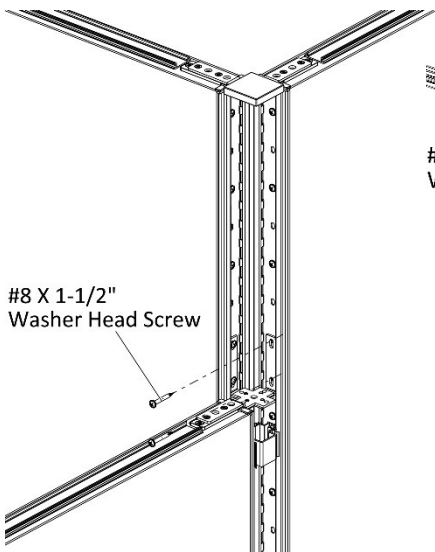

Figure 9
- 16. Drive two #8 x 1-1/2" Washer Head Screws through the holes in intermediate panel connector into the third panel, (Figure 9).